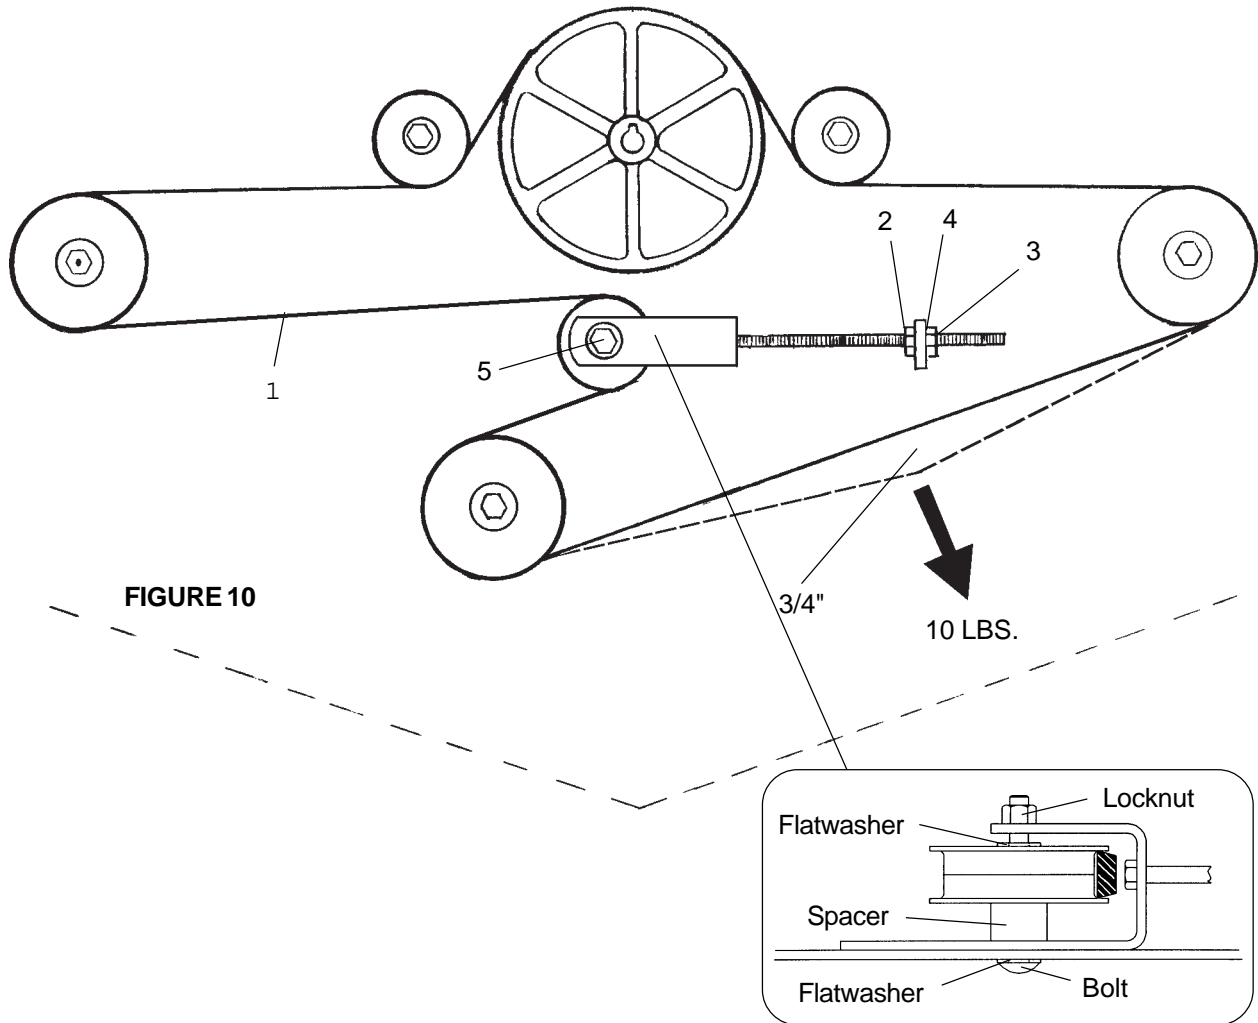

FIGURE 10
Tighten drive belts by loosening nut, items 2 & 5, and turn nut, item 3 against the anchor plate until proper tension is reached. **DO NOT OVERTIGHTEN.** Tighten jam nut, item 4., and nut item 2. And retighten item 5. **FIGURE 10.**